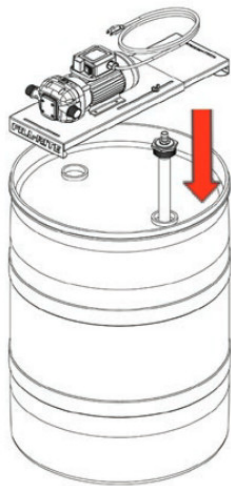

Figure 8
2. Adjust length of suction tube to reach within 2" of the bottom of drum once tightened into bung adapter. Insert Drum Suction Tube (sold seperately, item 6, page 11). Place Pump with Drum Bracket over drum lip. Compress sliding bracket to securely wrap around drum lip. Secure bracket by tightening wing nuts (Figure 8).